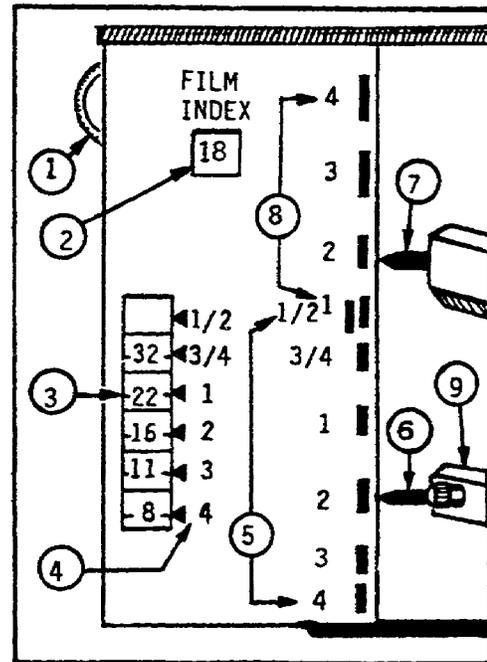

Figure 1-10. Exposure and Magnification Controls.
(1) To select the correct aperture, adjust the focus and magnification. Read the numbers at the lens carriage ⑥ and camera carriage ⑦ pointers (fig. 1-10). In this case it reads 2. Go to the aperture window ③ and read the f/stop opposite 2. It shows f/16.
(2) Set the aperture to f/16. Your camera is now set for the correct exposure.